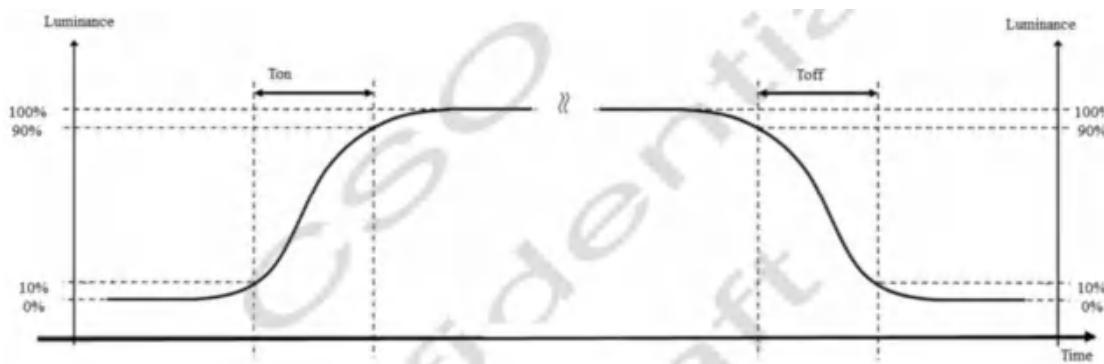

Fig. 7.4 The definition of Ton, Toff
- (3) The electro-optical response time measurements shall be made as Figure 7.4 by switching the "data" input signal ON and OFF. The times needed for the luminance to change from 10% to 90% is Ton, and 90% to 10% is Toff.